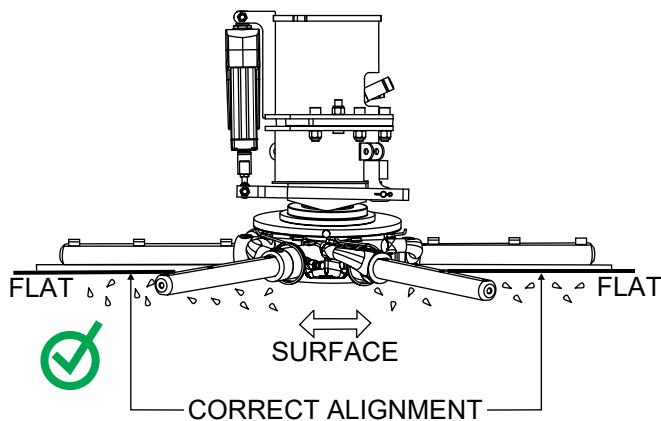

Figure 69. Correct Spider Plate Alignment
2. Pitch the blades as flat as possible. The adjustment bolts should all barely make contact with the lower wear plate on the spider. Figure 69 illustrates the correct alignment for a spider plate as shipped from the factory.